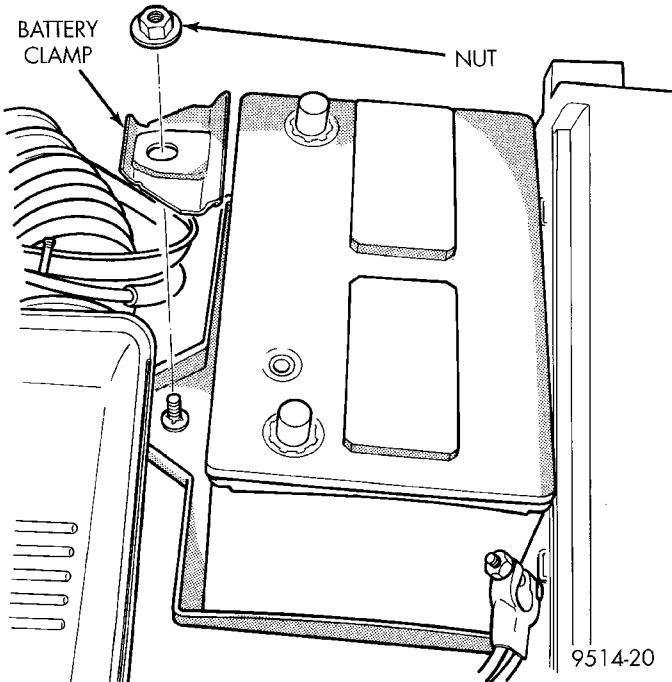

Fig. 4 Battery Clamp
- (1) Disconnect both cables from battery, negative cable first.
- (2) Remove 2 screws holding PDC to bracket, swing out of way.
- (3) Remove nut and clamp holding battery to battery tray (Fig. 4).
- (4) Remove battery from vehicle.
- (5) Disconnect two vacuum hoses at EVM.
- (6) Remove mounting screws of EVM.
- (7) Remove the EVM to gain access to the EVM electrical connector.
- (8) Remove electrical connector at EVM.